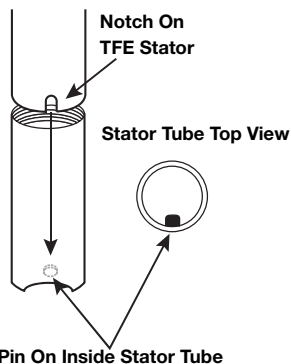

Figure 10
7. Replace TFE stator insert into stator tube (see figure 10 & 11).